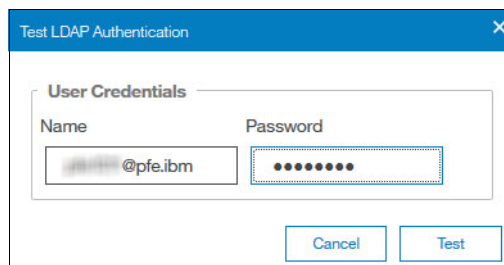

Figure 7-30 Test LDAP Authentication, provide user credentials
3. To test authentication to the LDAP servers, select **Global Actions** → **Test LDAP Authentication** and enter the corresponding credentials for the user, as shown in Figure 7-30.